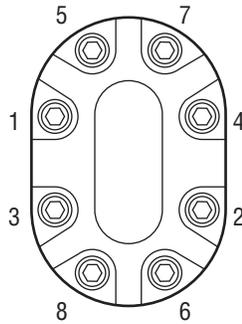

Figure 3
1. Install new O-ring (4) and back-up ring (5) into drive shaft opening of handle (1) using an O-ring tool. Be careful, do not damage O-ring during installation.
2. Lubricate drive shaft (8) and slide into opening in handle (1) through the O-rings and back-up ring from impact mechanism side of tool.
3. Install Woodruff key (9) and one gear (10) onto drive shaft (8), guiding keyway in gear (10) over Woodruff key (9). Fasten gear to drive shaft with retaining clip (11).
4. Install drive pin (12) into idler shaft (13), if removed. Slide remaining gear (10) onto idler shaft (13), guiding keyway in gear (10) over drive pin (12). Install idler shaft and gear into handle (1), meshing the two gears (10) together. Use retaining clip (11) to restrain lateral movement of idler shaft.
5. Install dowel pins (14) into handle (1) if removed. Install new gasket (15).
6. Install motor cap (6) onto handle (1).
7. Secure motor cap (6) to handle (1) with cap screws (16). Torque cap screws (16) to 80 inch-pounds. Follow torque sequence shown in Figure 3.